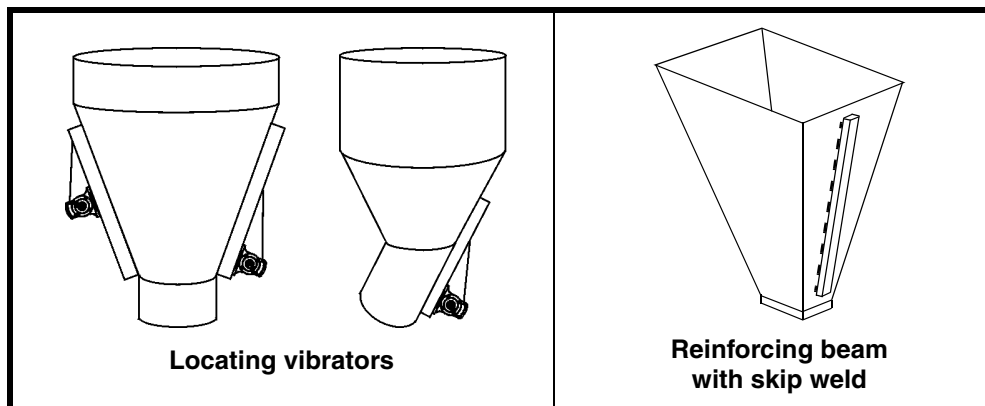

Figure 1. Locating Vibrators and Reinforcing Beams on Hoppers
4. See Figure 1. Locate vibrator in lower 1/4 to 1/3 of structure slope length. If second vibrator is needed, mount 180 degrees from first vibrator and halfway up slope.
5. If necessary, install reinforcing beam to strengthen chute wall (see Figure 1). Skip weld beam in place: Weld 3 in. (76 mm) then skip 2 in. (51 mm). Repeat for entire perimeter of beam. Do not weld last 1 in. (25 mm) of either end of beam or any corner. Make sure beam extends at least 3/4 the length of structure from top to bottom.